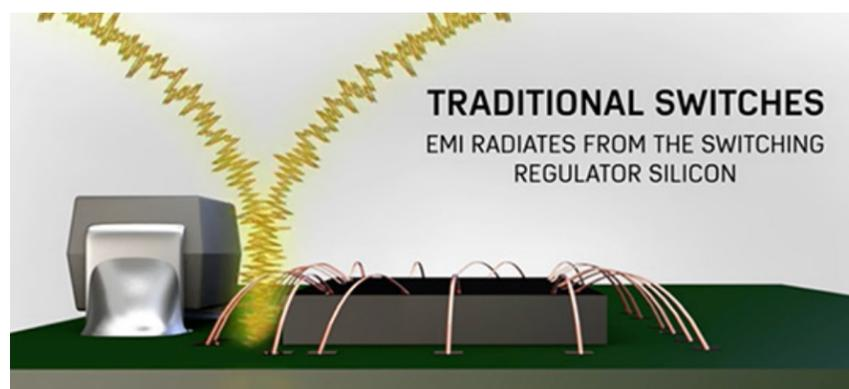

Figure 3: The bond wires from the IC die to the package function as miniature antennas and radiate undesired RF energy. (Image source: Analog Devices)
- Technique #1: The switching of the regulator acts as an RF oscillator/source and combines with the bond wires, which act as antennas. This turns the assembly into an RF transmitter with undesired energy that may exceed allowed limits (Figures 3, 4, and 5).